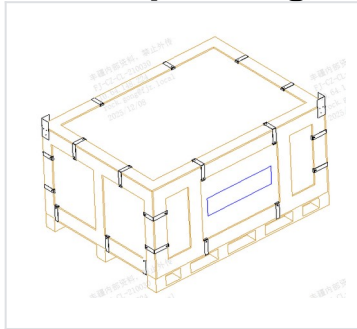

Figure 10
7. First, cut off the wrapping film outside the packaging box, then remove the top and side panels of the wooden box (as shown in Figures 10 and 11).